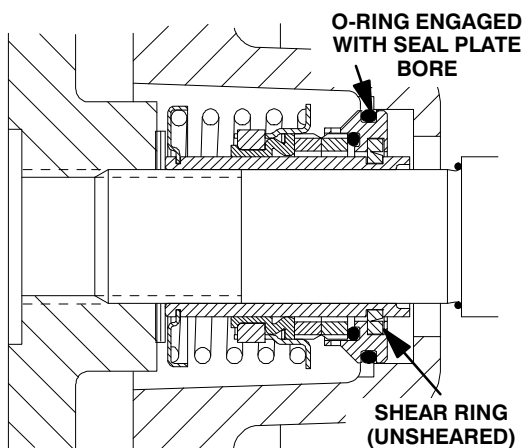

Figure 7. Seal Partially Installed
Clean and inspect the impeller as described in **Impeller Installation and Adjustment**. Install the full set of impeller shims (26) provided with the seal, and screw the impeller onto the shaft until it is seated against the seal (see Figure 7).